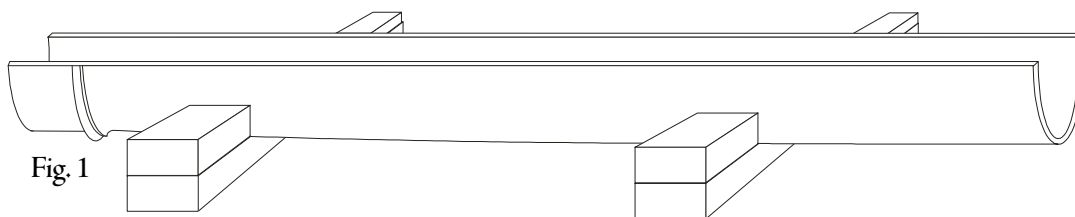

Fig. 1
4. Lay column halves down, blocking well to prevent rolling (fig. 1). Prepare edges of column halves for application of adhesive, following adhesive manufactures directions.